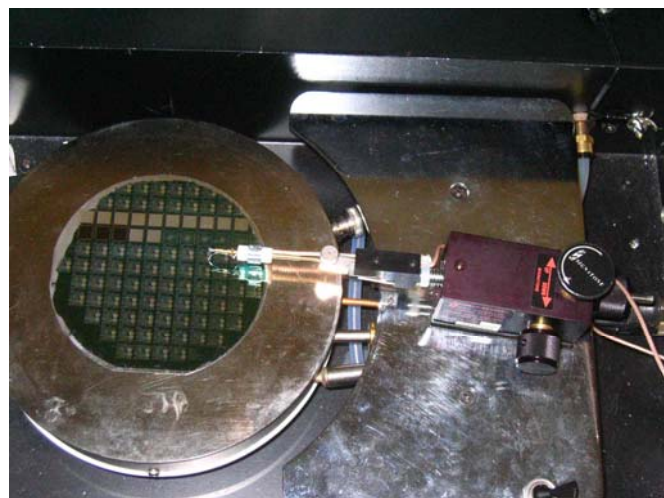

Figure 49: Diode CV Wafer Setup
1. Pull the pins on the Gate Oxide MOS Caps on the wafer as shown in Figure 49.